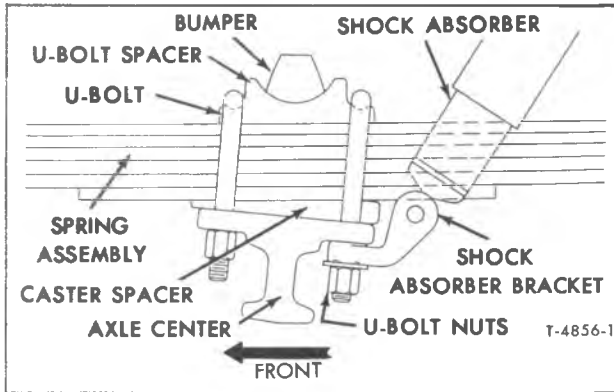

Figure 3—Front Spring Center Mounting
2. If axle center has been twisted or bent more than 5 degrees from original shape, center should be replaced. As a general rule, when an extreme bent condition exists, minute fractures which may be invisible will occur, and failure under ordinary operating conditions will result. Check axle center for twist with alignment instruments, or on a bench as illustrated in "FRONT END ALIGNMENT" (SEC. 3A) in figure 3. If equipment is available, use Magna-Flux method to check axle center for minute fractures.